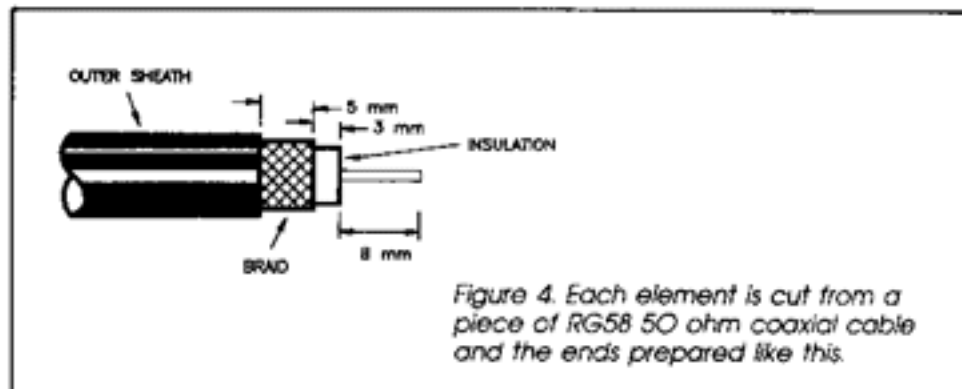

Figure 4. Each element is cut from a piece of RG58 50 ohm coaxial cable and the ends prepared like this.
3) Prepare each end of seven elements, and only one end of the eighth element, as detailed in Figure 4. The eighth element will become the 'top' element of the antenna.
10) Now for the feedpoint and groundplane. You'll have a short length of RG58 left over. Attach a suitable in-line connector, such as a BNC male, to one end and prepare the other end as per Figure 4.
6) With the ends of all the elements prepared as per Figure 4, now tin the exposed centre conductor and shield braid on each. Use a hot iron, preferably a temperature controlled type. A flat-faced ('spade') tip is best for this job. Apply the tip to the part to be tinned